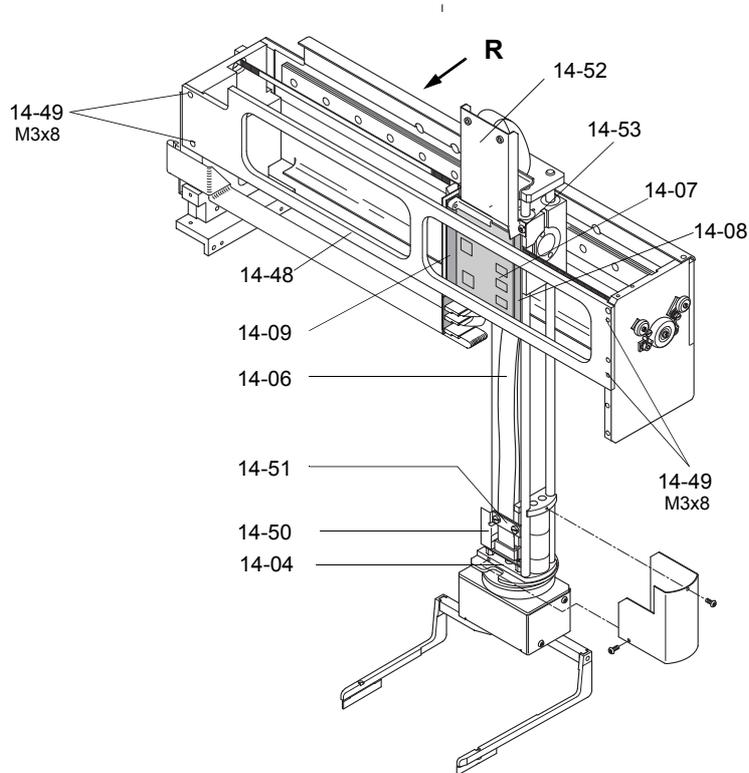

Figure 6-120 Gripper/Rotator flex cables
- 1 Lay the RoMa 2 with its right side down (R in Figure 6-120) on a flat, stable surface.
Tip: you may remove the left side plate (14-48, see Figure 6-120) to ease access.
- 1 Remove the left side plate (14-48, see Figure 6-120).